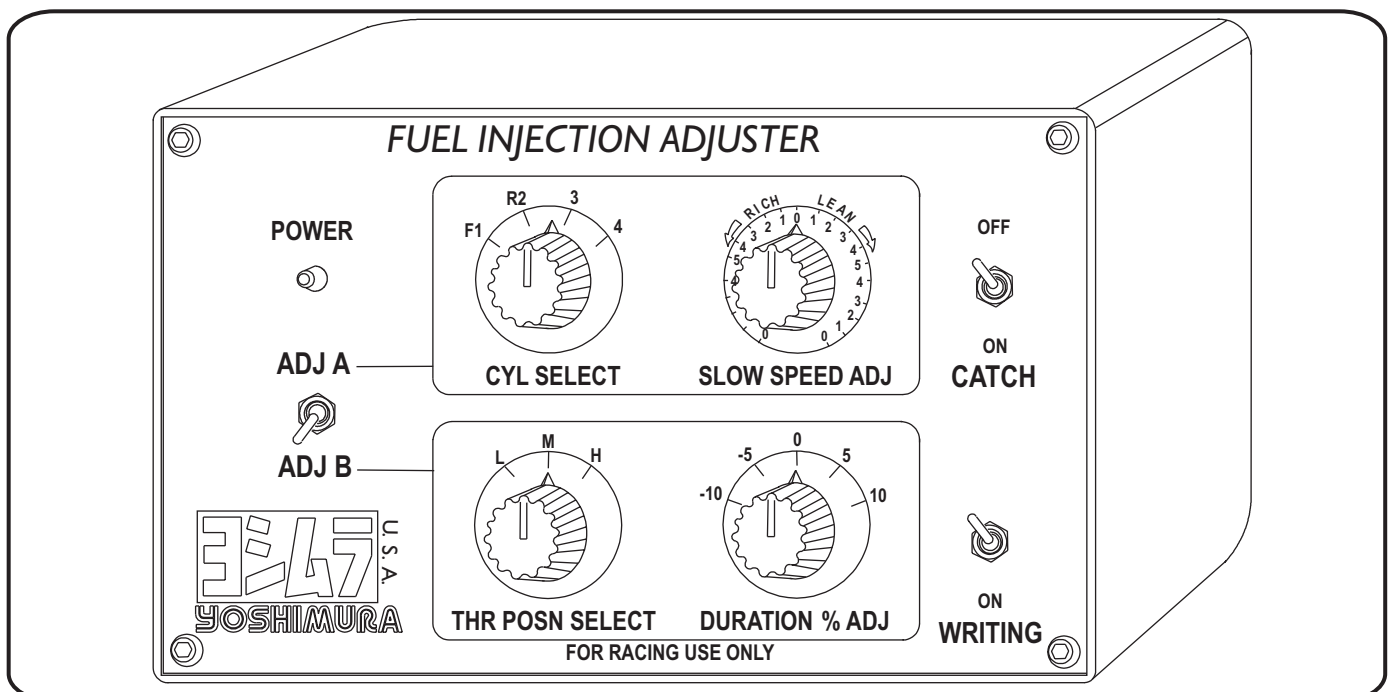

Fig. 1
2. Always confirm the ignition switch is “OFF” on the motorcycle and that the “CATCH” toggle switch located at the upper right of the adjuster box is in the “OFF” position PRIOR to connecting the cable (See Fig 1). Otherwise **DAMAGE** may result to the adjuster box.